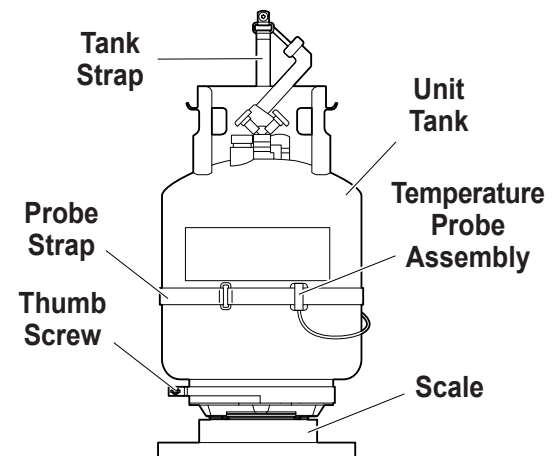

Figure 1
2. Place the tank on the scale in the orientation shown in Figure 1. Tighten the thumb screw on the scale.
3. Loop the tank retention strap through the tank handle and secure the clip back to the strap ring. See Figure 1.
5. Remove the temperature probe assembly and strap from its packaging and install on the tank. The unit will not function properly without the tank temperature probe. See Figure 1 for the correct probe position.